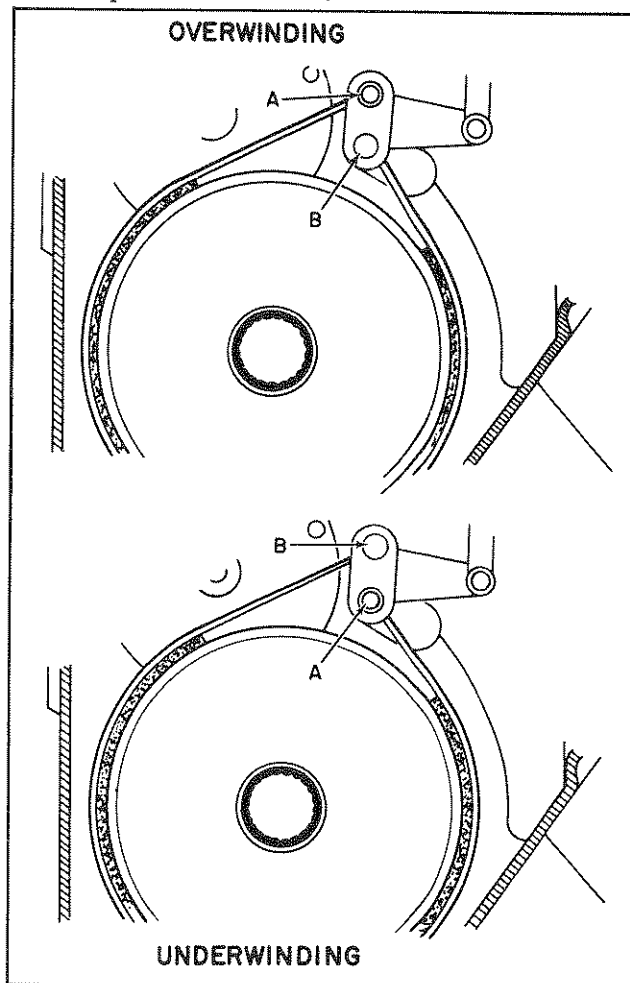

Figure 4-8. Brake Band Arrangement.
a. Brake band arrangement. (See figure 4-8.) Change the anchoring end of the brake band by changing the positions of pins A and B.